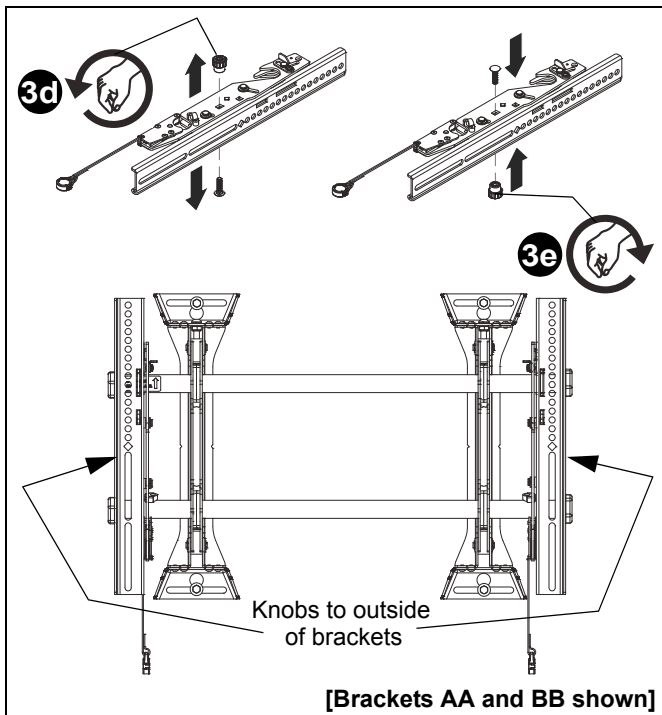

Figure 8
3. If necessary, the tilt interface bracket knobs may be switched to allow the interface brackets (AA and BB) to be reversed. (See Figure 8)